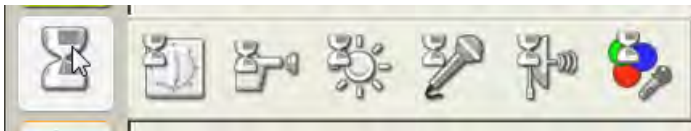

Figure 10-2. There are six WAIT blocks that can be selected.
The WAIT blocks are found on the Common Palette. When you move your mouse pointer over the WAIT block, a fly-out menu appears with six options (see Figure 10-2).
■ **Note** If you are using the NXT-G 1.0 version of the software, you will not see the COLOR SENSOR WAIT block, the right-most icon in Figure 10-2.